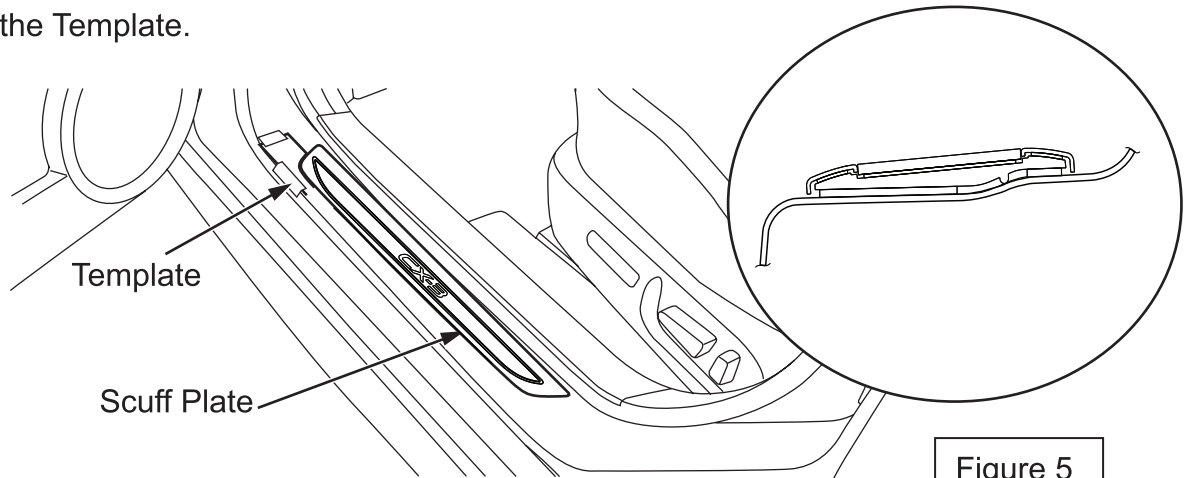

Figure 5
- A. Carefully align Scuff Plate with the Paper Template. Push Scuff Plate inward and press down flat into position (Figure 5).